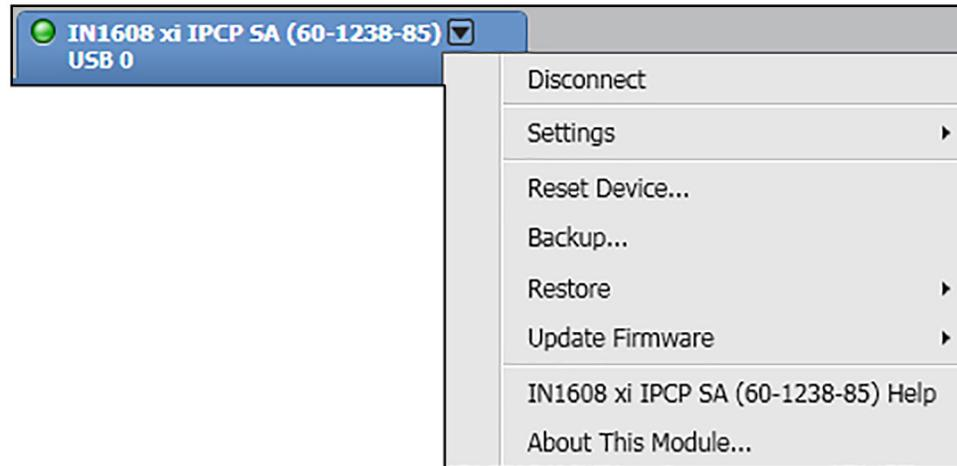

Figure 50. Device Menu
2. If necessary, click the **Close Session(s) and Exit** button (see figure 50, ❶) to disconnect the software from connected devices, close all offline device tabs, and close the software. Click the **Cancel** button (❷) to leave the software open.